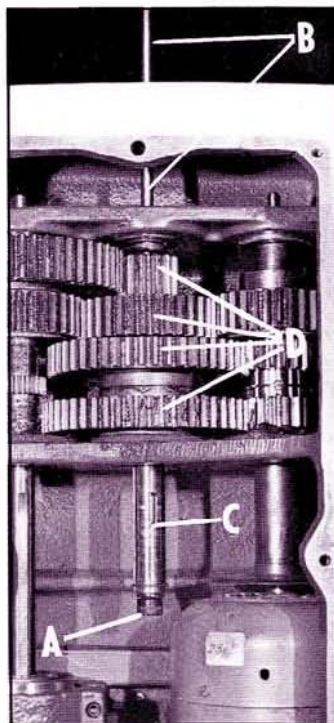

Fig. 17
17. Replace screw and lockwasher (A) Fig. 17. These items were removed in STEP 9.
18. Using the same rod (B) Fig. 17, used in STEP 12, tap shaft (C) Fig. 17, down all the way, as shown, and remove the center gear train (D), from the machine.